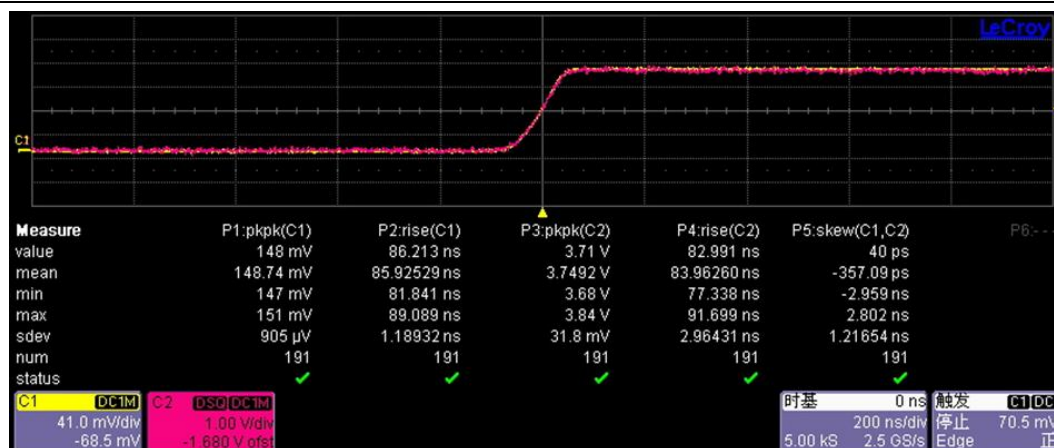

Figure 4:HCP8000 series & DP6000 series measurement, Skew time compensated
- ✧ By using the delay compensation function of Channel 1 or 2, compensate the Skew time and change Skew to 0, thus finish the offset compensation as Fig 4 shown below. Record the delay compensation time of Channel 1 or 2 for later use.